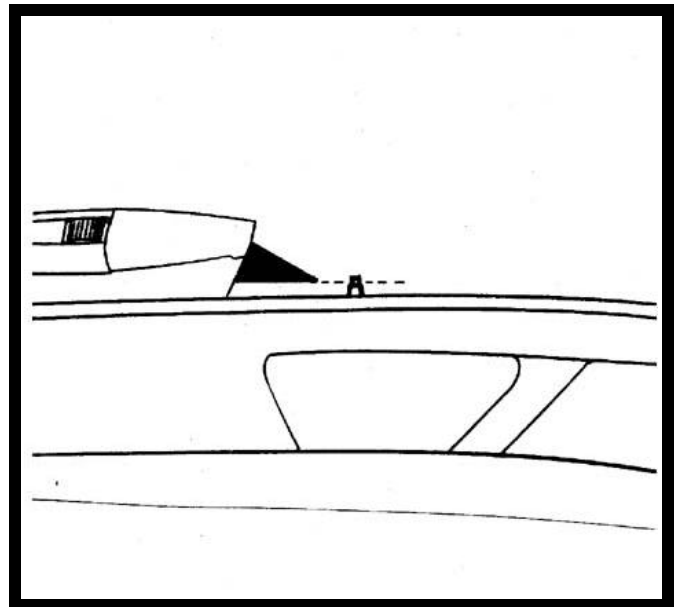

FIGURE 4
Using a razor knife, carefully trim the (10) ten plastic pins flush with the shoulder. See Figure 4.